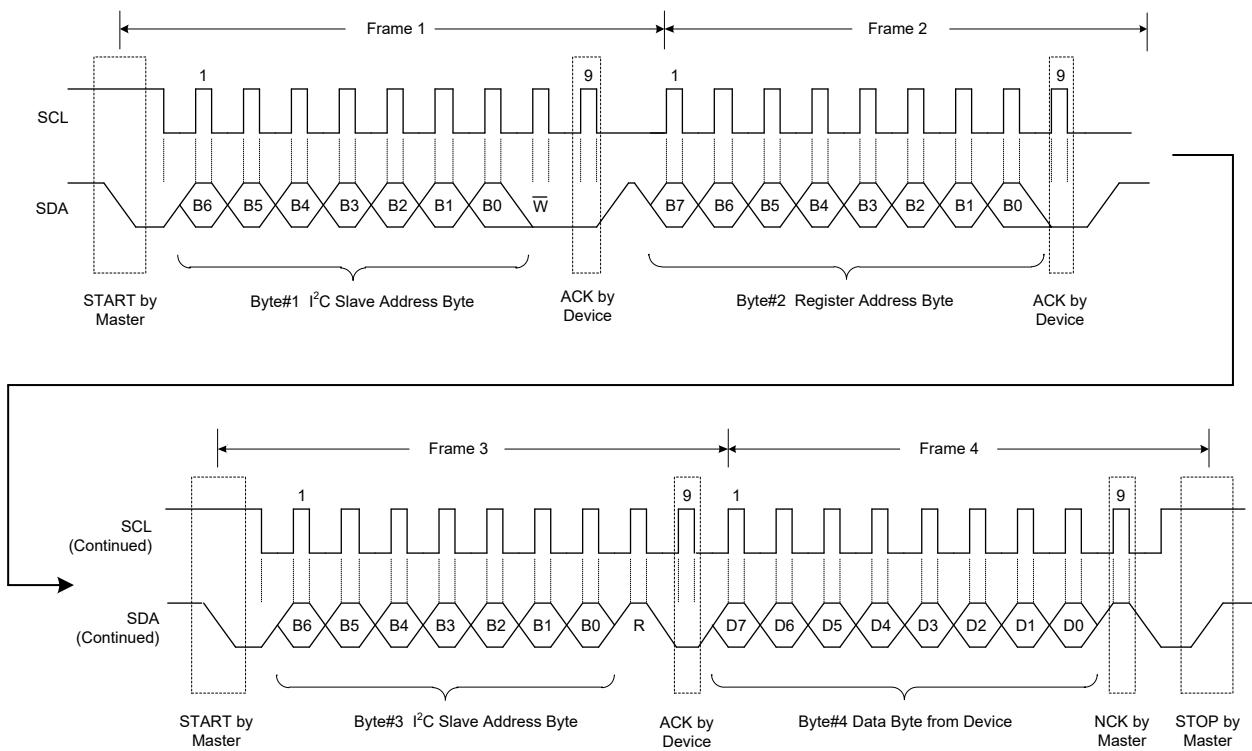

Figure 14. A Single Read Transaction
**READ:** If the master wants to read a single register (Figure 14), it sends a new START condition along with device address with R/W bit = 1. After ACK is received, master reads the SDA line to receive the content of the register. Master replies with NCK to inform slave that no more data is needed (single read) or it can send an ACK to request for sending the next register content (multi-read). This can continue until a NCK is sent by master. A STOP must be sent by master in any case to end the transaction.